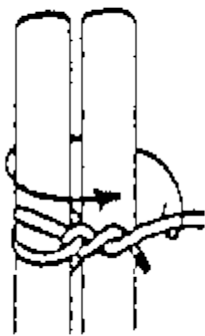

Figure 1
1. Begin with a clove hitch underneath the pole to be supported (figure 1). Leave enough of a tail (*standing end*) to tie a square knot when lashing is complete. Alternatively, end with a clove hitch as shown in Figure 5.
2. Start with a clove hitch on one of the outside poles. (figure 1)
- Begin with a timber (figure 1) or clove hitch around both poles to draw the poles together.
- Wrap 3-4 *turns* around the two poles in one axis (figure 1).
2. Start with a timber (figure 1) or clove hitch around one pole.